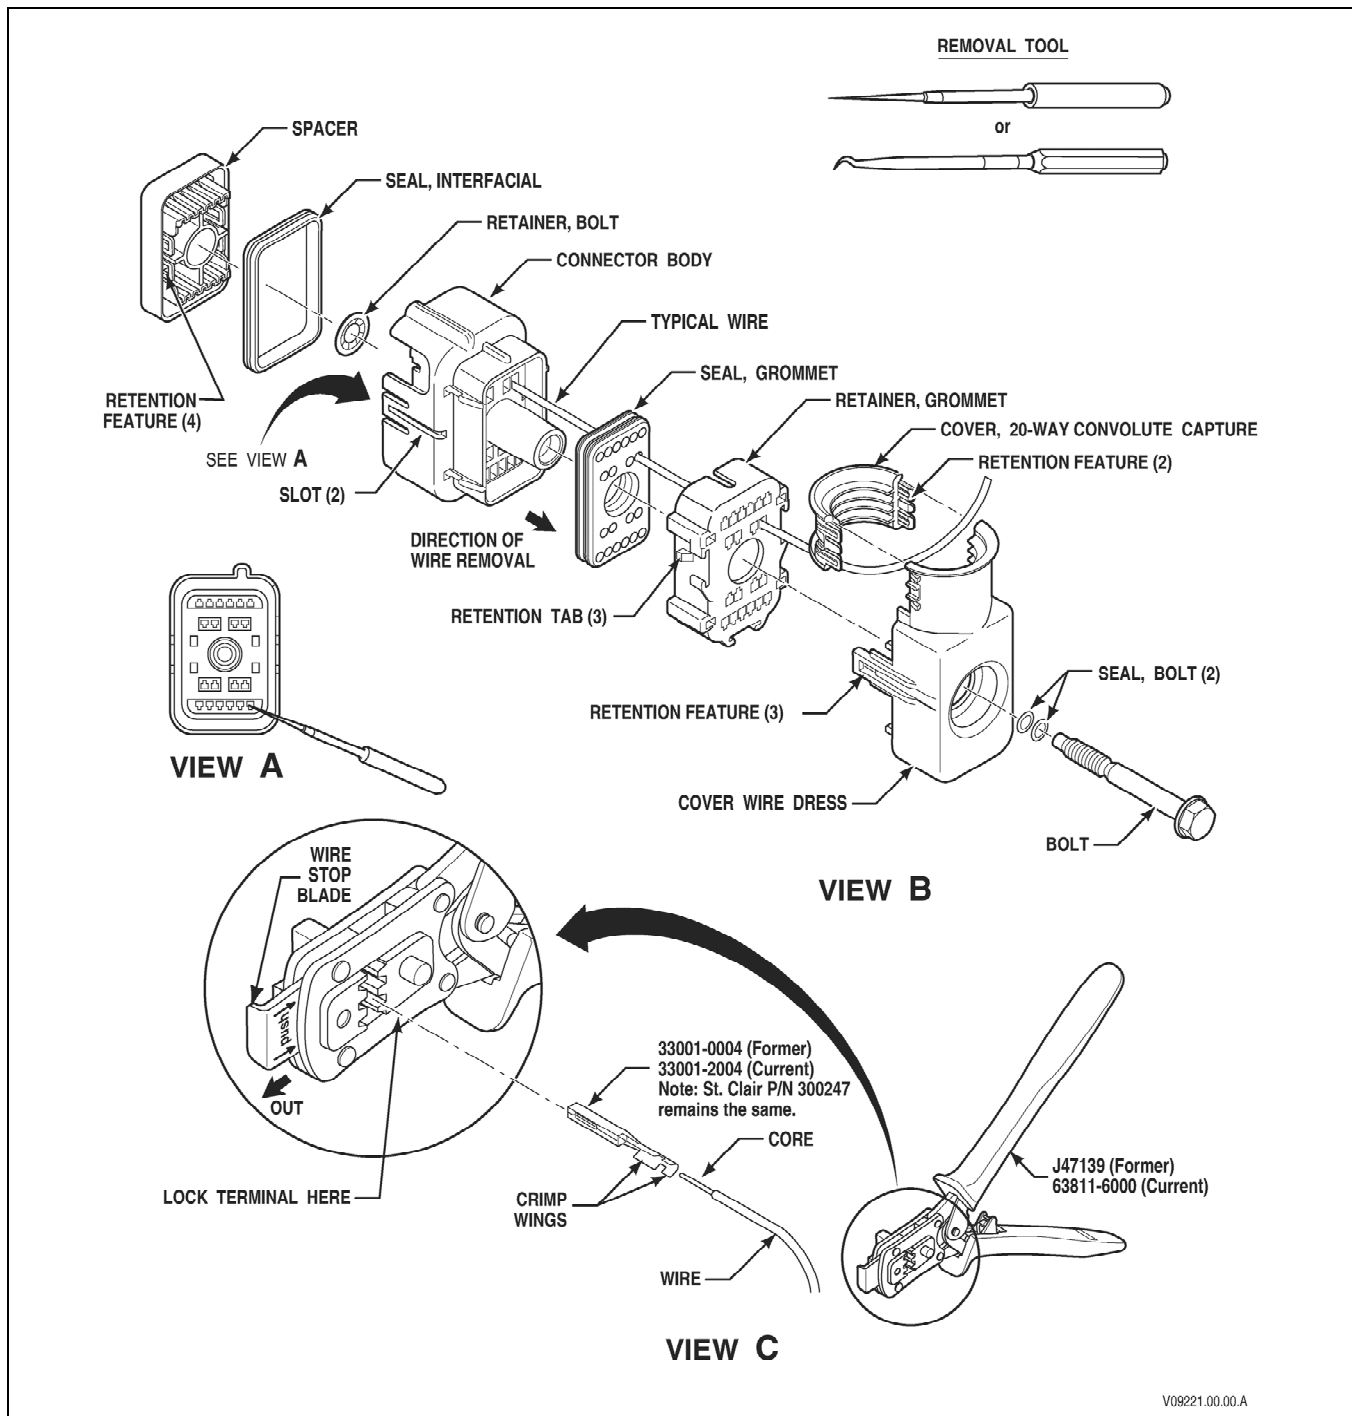

Figure G-6. AFL Automotive 20-Way, Bolt-Assist TCM Connector
7. Insert the metal blade of J-38125-12A or J-39227 remover tool into the small hole in the front of the connector body above or below the desired terminal/wire lead cavity location (Figure G-6, View A).
2. Refer to Figure G-6, View C. Pull out the wire stop blade of the crimping tool so it is clear of the terminal crimp area. Place the terminal all the way into the appropriate wire size opening of the J-47139 (former) or 63811-6000 (Molex P/N, current) crimping tool until it contacts the stop and is properly oriented. Squeeze the handle enough to keep the terminal in place in the tool but not enough to compress the crimp wings.
9. Refer to Figure G-6, View A. Align the three retention features of the backshell wire dress with the three lock tabs on the grommet retainer and press the backshell wire dress onto the grommet retainer until all three retention features lock. Align the wire dress cover with the backshell wire dress and press into place until it locks on both sides.